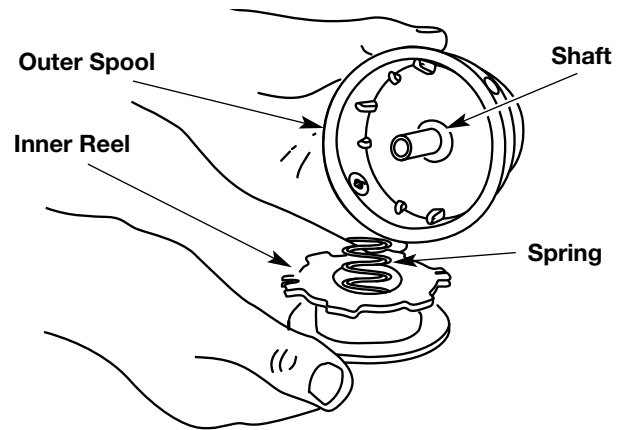

Fig. 19
2. Remove the inner reel from the outer spool (Fig. 19).
3. Remove spring from the inner reel (Fig. 19).
2. Remove the old inner reel from the outer spool (Fig. 19).
3. Remove the spring from the old inner reel (Fig. 19).